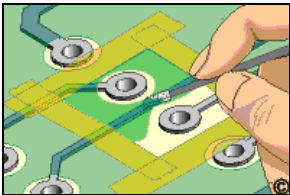

Figure 1: Foam Swabs can be used to create texture.
5. Apply the mixed Epoxy using a Brush, Foam Swab, Pick, or Syringe Assembly. (See Figure 1).